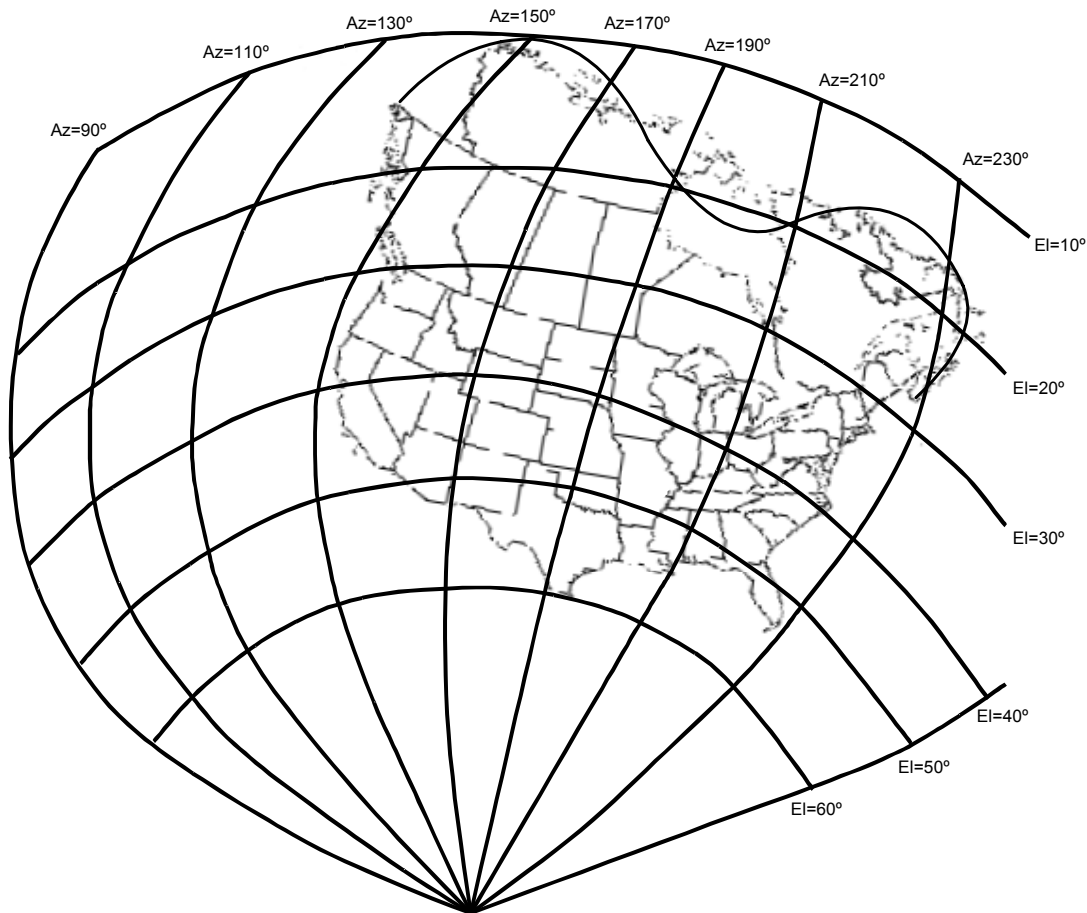

Figure 2. Antenna Positioning Map with Azimuth and Elevation Degrees
1. Refer to the *Antenna Positioning Map* (see figure 2) for the correct positioning of the *SDT-5000*.
Figure 2 displays the extent of Wireless Matrix's satellite coverage into Canada.